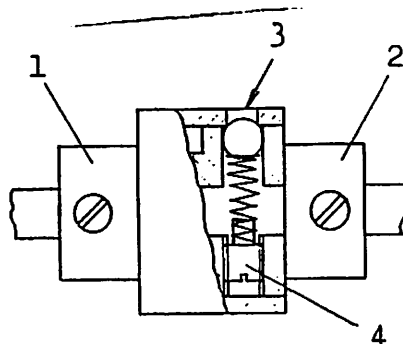

Fig 17
2. Hold the clutch(Left, 1, Fig 17) by your finger, turning the machine pulley by your hand so as to make an half rotation of the clutch(Right, 2, Fig 17), then, stop screw(4, Fig 17) is visible in the hole (3, Fig 17) of the clutch(Left, 1, Fig 17).
3. To increase the spring tension, turn the stop screw (4, Fig 17) clockwise and to decrease it, turn the stop screw(4, Fig 17) counter-clockwise.